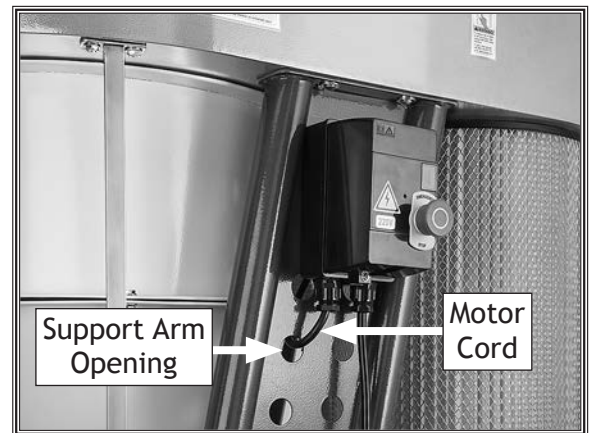

Figure 30. Example of magnetic switch attached to support arm.
33. Tuck loose wires into magnetic switch cover so none can be crimped when cover is re-attached, and then replace magnetic switch cover and tighten (2) Phillips head screws loosened in **Step 30** to secure.
34. Thread motor cord through support arm opening and connect to matching plug from motor under impeller housing (see **Figure 30**).